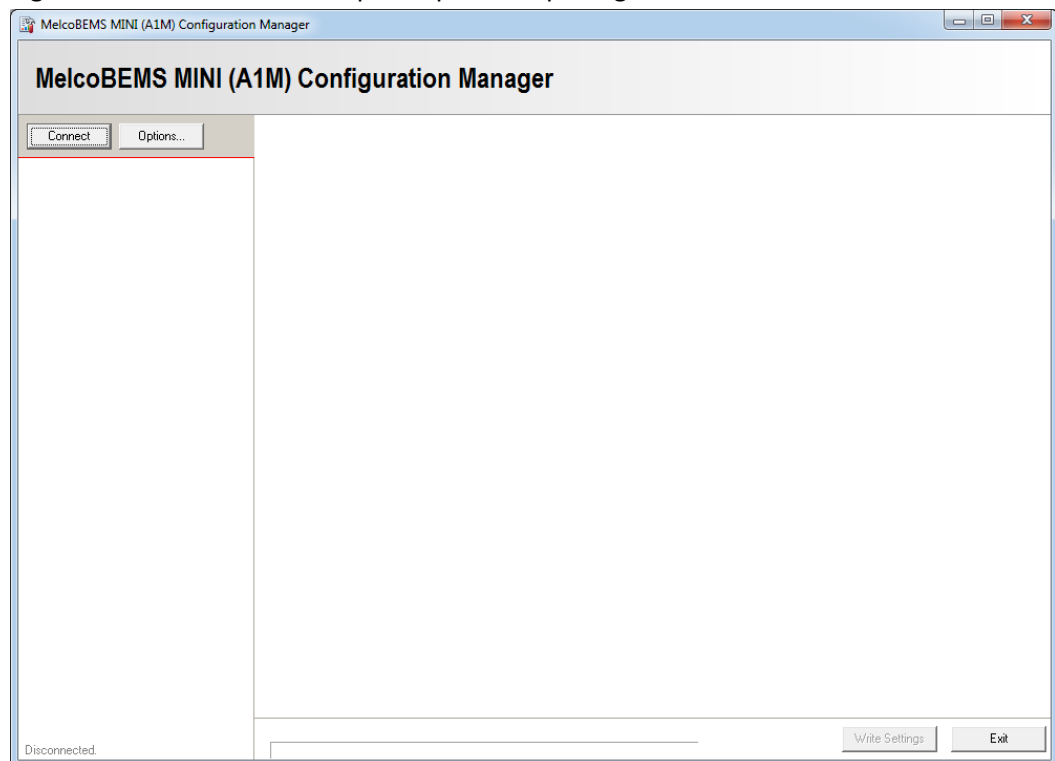

Figure 4
- a. Figure 4 is the window that opens up when opening the software tool.